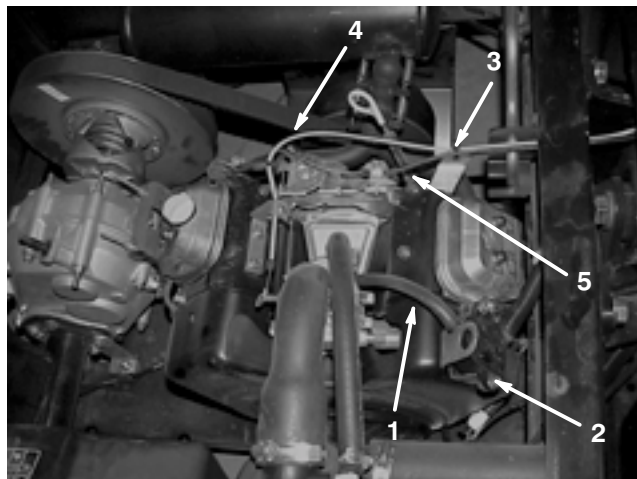

Figure 18
5. Disconnect fuel hose from the fuel pump. Remove cable tie securing the choke, throttle, and shift cables to the bracket on the front cylinder head. (Fig. 18).
8. Connect fuel hose to the fuel pump (Fig. 18).
10. Secure choke, throttle, and shift cables to the bracket on the front cylinder head with cable tie (Fig. 18).